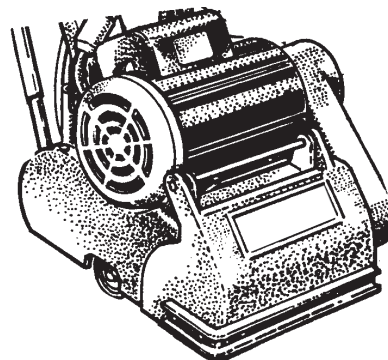

Figure 4
- 6 Lift chassis with transport handles and place in cargo area. (Figure 4)